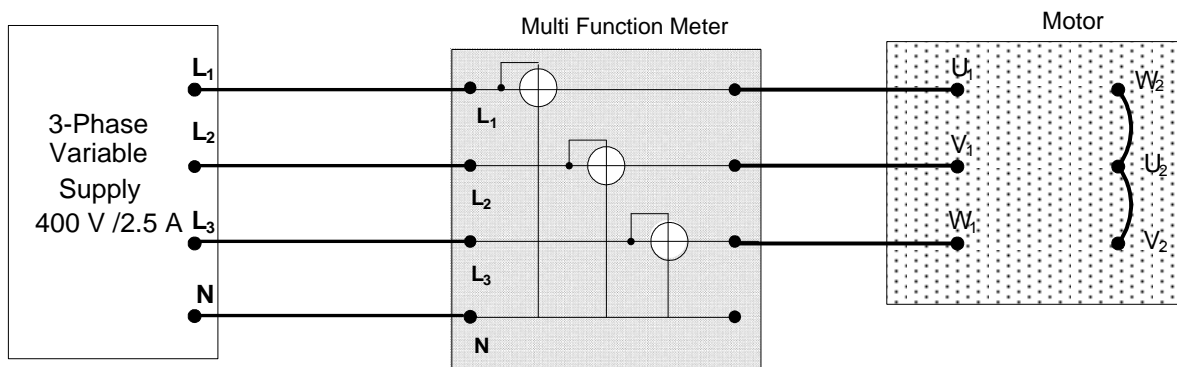

Fig. 6: Wiring diagram under No Load Test
7. Connect the circuit as shown in the wiring diagram of Fig. 6 to the three-phase variable AC supply 0...400 V.
13. Use the same wiring diagram shown in Fig. 6.